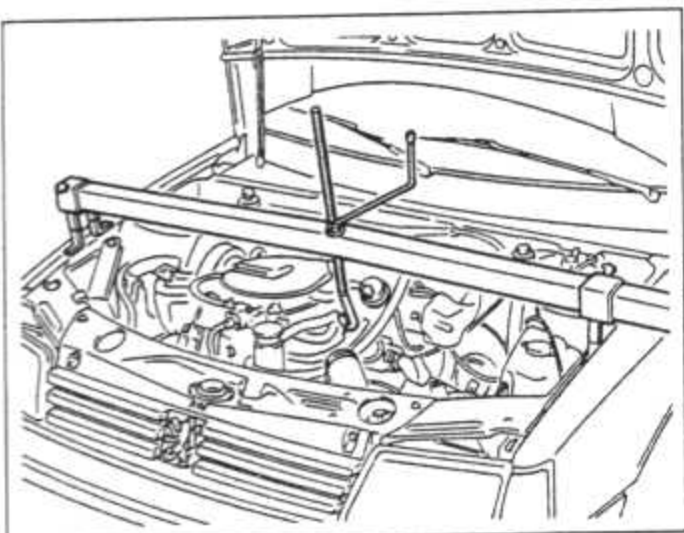

Fig. 13.47 Engine support crossbeam (Sec 14)
- crossbeam, with its hook engaged in the left-hand engine lifting eye, as shown in Fig. 13.47.